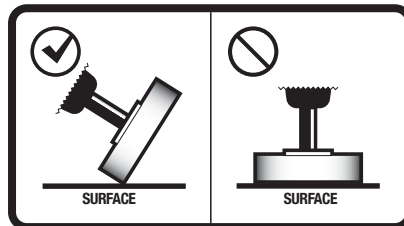

Fig. 1
- For optimal results, pad must be held at an angle. (See Fig. 1)**
5. With the tool running, bring the edge of the pad in contact with the material you wish to remove. Only use the edge of the eraser pad rather than the flat surface of the pad. (See Fig. 1)